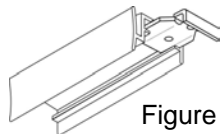

Figure 1B
- F. Locate the Pivot Block Clamp (#8) in the Hardware Bag. Loosen the #10-32 x 7/16 Screw (#8A) in the Pivot Block Clamp (#8) and slide the Pivot Block Clamp (#8) into the Top Track (#2) on the side where the door will pivot (See Figure 1B).